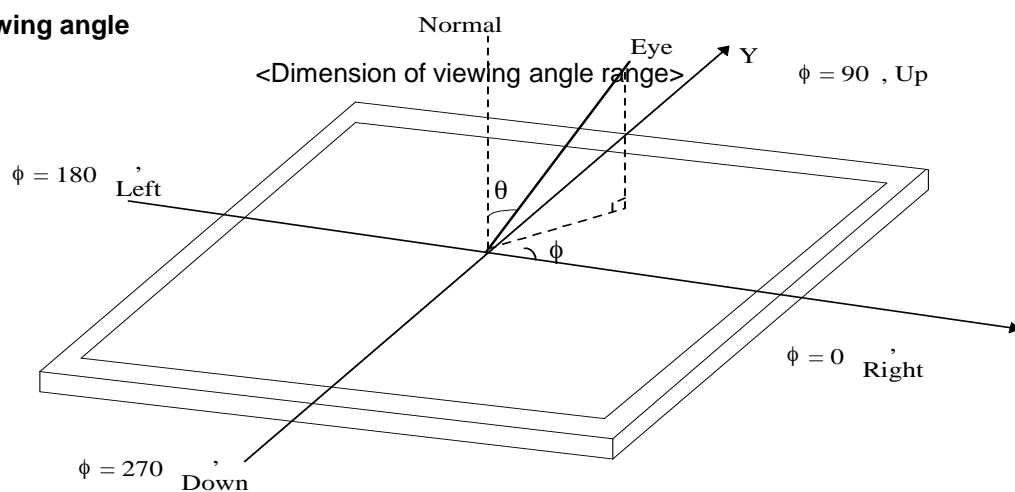

**FIG. 3 Response Time**
- Response time is the time required for the display to transition from white to black (rise time,  $Tr_R$ ) and from black to white(Decay Time,  $Tr_D$ ). For additional information see FIG 3.